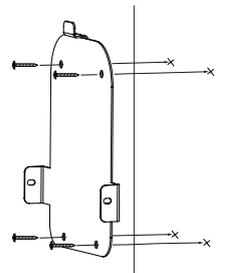

Fig. 6: Wall-mounting bracket installation
2. Use four included M6 self-tapping screws to fasten the wall-mounting bracket to the wall (see Fig. 6).